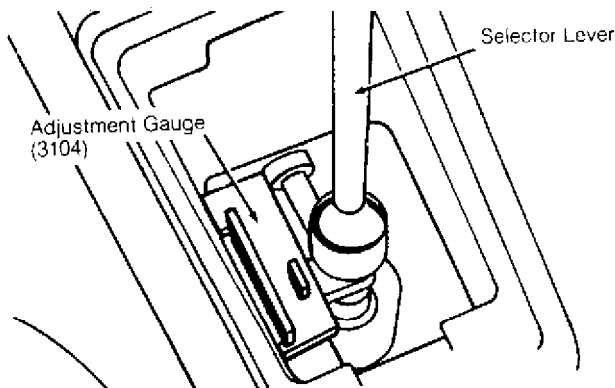

Fig. 8: Locating Adjustment Gauge
2) Remove gearshift knob and boot. Position Adjustment Gauge (3104) over shift rod. See Fig. 8. With transaxle in Neutral, align shift rod with selector lever. Tighten shifter rod clamp to 19 ft. lbs. (26 N.m).